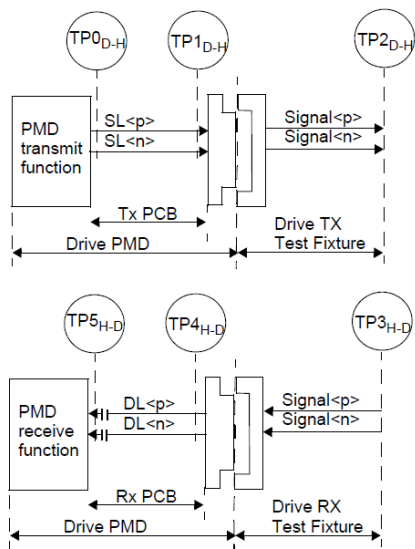

Figure 128A-5—Drive compliance board
- Figure 128A-2 is incorrect in a couple areas.
The definitions of the compliance points, the host compliance board, and the drive compliance board are not clearly shown in the figures. For instance, the output of PMD transmit function is labeled as TP0D-H in Figure 128A-1, but labeled as TP1D-H in Figure 128A-2. In Figure 128A-2, the loss from TP1D-H to the connector input is 0.9dB in the top figure but 1.375dB in the middle figure.
In Figure 128A-1, the test point adjacent to the PMD transmit function is TP0 but here it appears to be TP1. Which is correct?
Clarify the difference between the diagrams in Figure 128A-2.
- Figure 128A-5 is incorrect in a couple areas.
- Note changes to figures 128A-8, 128A-9, 128A-8, and 128A-9,
It is not clear how the crosstalk is applied in the receiver interference tolerance test. In Figure 128A-9, the crosstalk is applied only during the calibration. Also, Figure 128A-8 and 128A-9 seem identical.